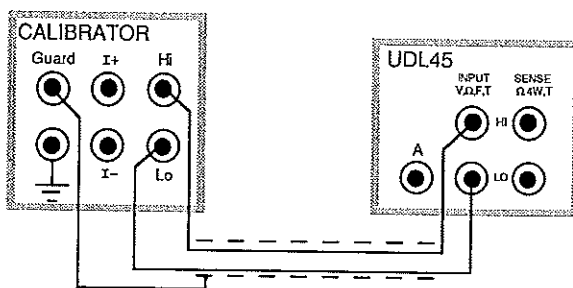

Figure 6-8. Calibrator-to-UDL45 Connections for AC/DC Volts, Resistance (2T), and Frequency
- (1) Calibrate dc volts.
- b. Connect the calibrator to the UDL45 using a shielded cable as shown in Figure 6-8.
- g. To continue the calibration procedure, go to step (2)d. To conclude the calibration procedure at this point, press FUNCTION ▼ repeatedly until the CAL date is displayed (Table 6-4, step 23) and go to step (10)c.
- (2) Calibrate ac volts.
- c. Connect the calibrator to the UDL45 using a shielded cable as shown in Figure 6-8.
- i. To continue the calibration procedure, go to step (3)c. To conclude the calibration procedure at this point, press FUNCTION ▼ repeatedly until the CAL date is displayed (Table 6-4, step 23) and go to step (10)c.
- (3) Calibrate frequency.
- g. To continue the calibration procedure, go to step (3)c. To conclude the calibration procedure at this point, press FUNCTION ▼ repeatedly until the CAL date is displayed (Table 6-4, step 23) and go to step (10)c.
- (4) Calibrate resistance.
- h. To continue the calibration procedure, go to step (5)c. To conclude the calibration procedure at this point, press FUNCTION ▼ repeatedly until the CAL date is displayed (Table 6-4, step 23) and go to step (10)c.